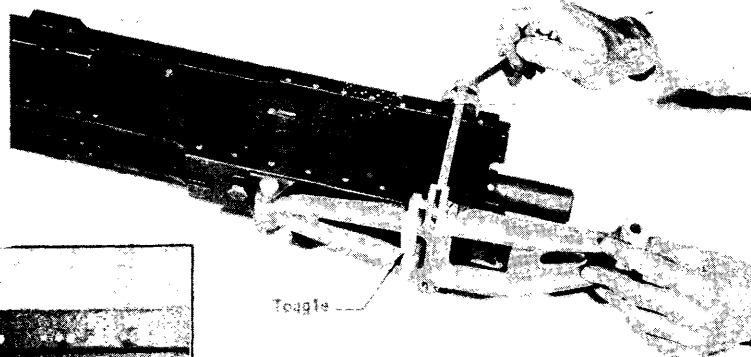
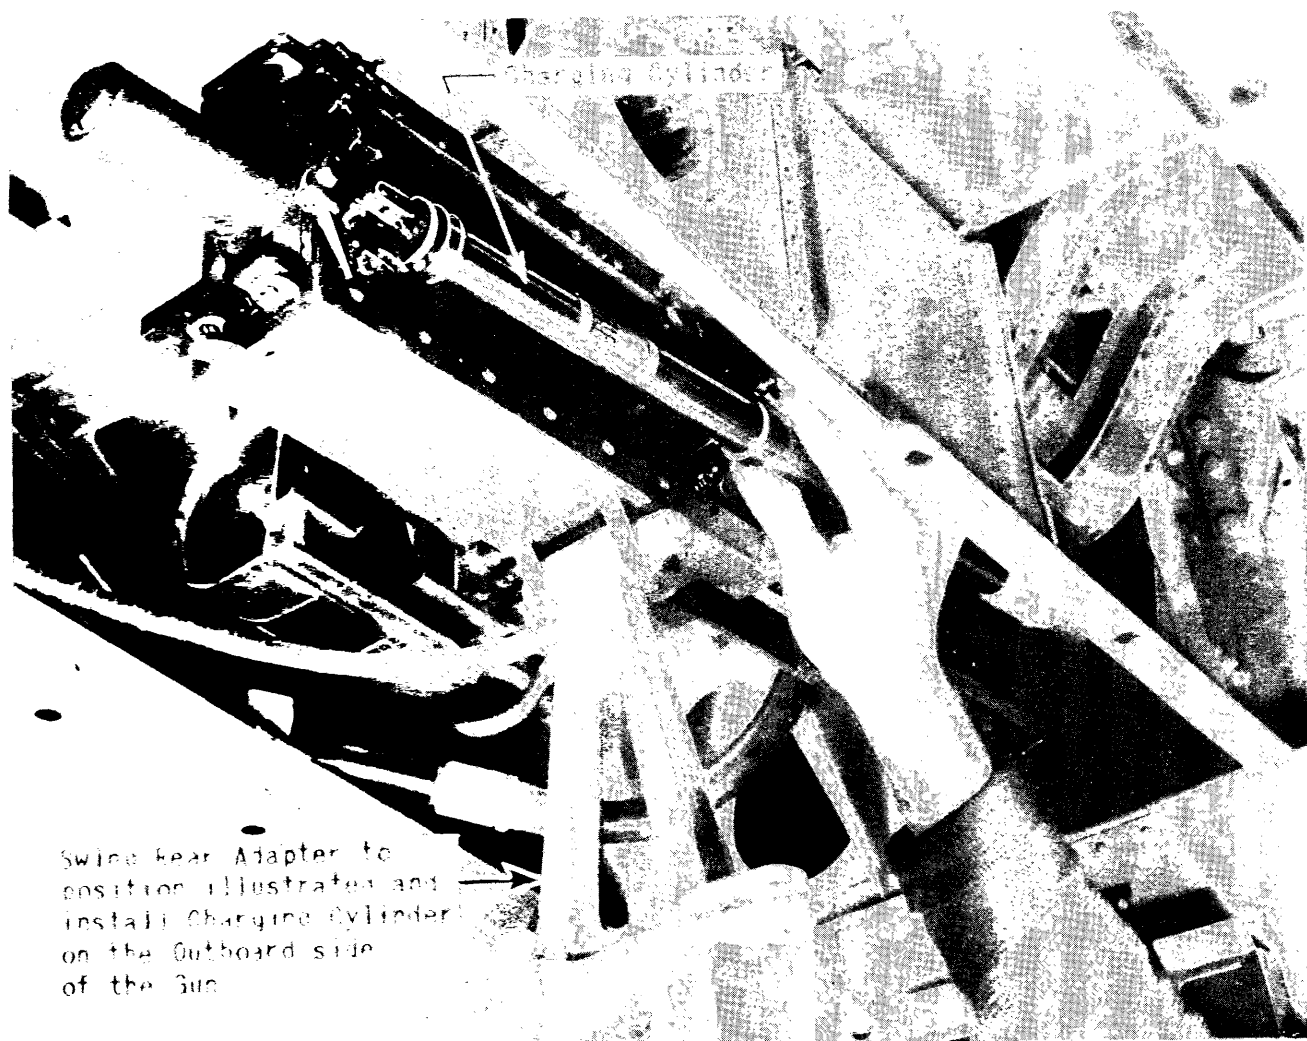

Figure 4 - Rear Adapter and Saddle Installed on Gun
Figure 19 - Installing Charging Cylinder on Gun
er tension with the toggle in the locked position. Do not tighten excessively, or damage may result. Adjust the lower nut on the tie-down rod so that it will be approximately 1/16 inch below the saddle as illustrated in figure 4. The purpose of this lower nut on the one tie-down rod is to keep the tie-down mechanism intact when it is released by the toggle and swung out of position as illustrated in figure 19.
(5) To Install the Charger Cylinder on the Gun. - Release the toggle on the under side of the rear adapter to free the saddle over the gun and swing the adapter downward. (See figure 31.) Install the charger cylinder in the mounting brackets on the gun and secure the front end first. (See figure 19.)